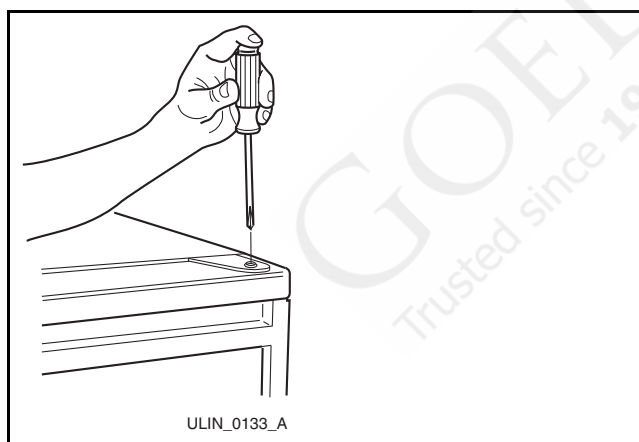

Figure 30
2. Remove the top hinge pivot pin with a Phillips screwdriver (**Figure 30**) and lift door off bottom hinge pin. Be careful not to lose the door closer insert sets.